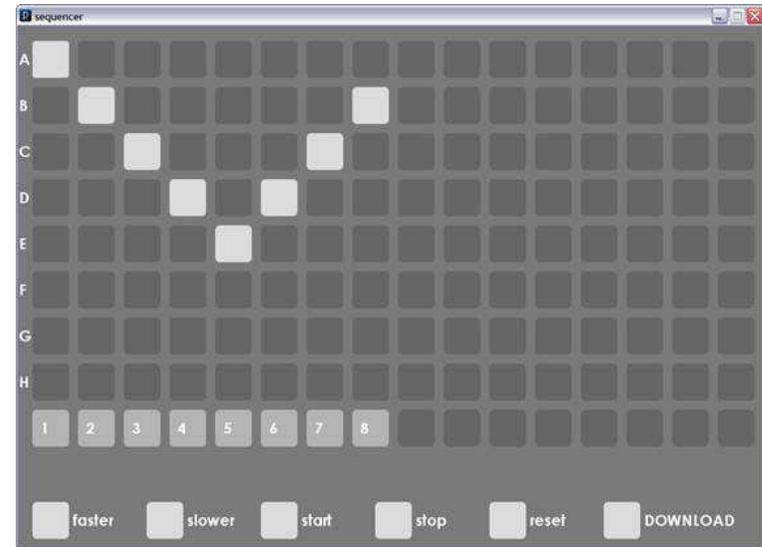

Figure 11
- In this illustration (Figure 11), we have connected 5 Lightwires (A -E) and created a simple 5-channel ripple pattern.